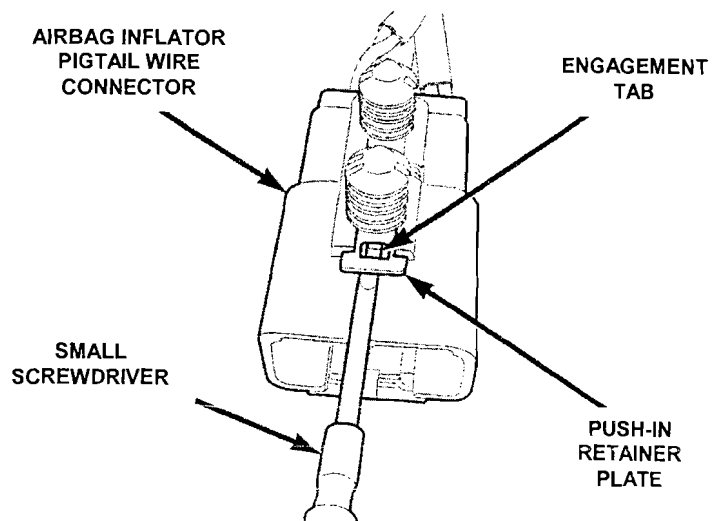

Figure 2
- a. Using a small screwdriver, carefully pry the leading edge of the push-in retainer plate away from the connector insulator far enough to clear the engagement tab on the insulator (Figure 2).